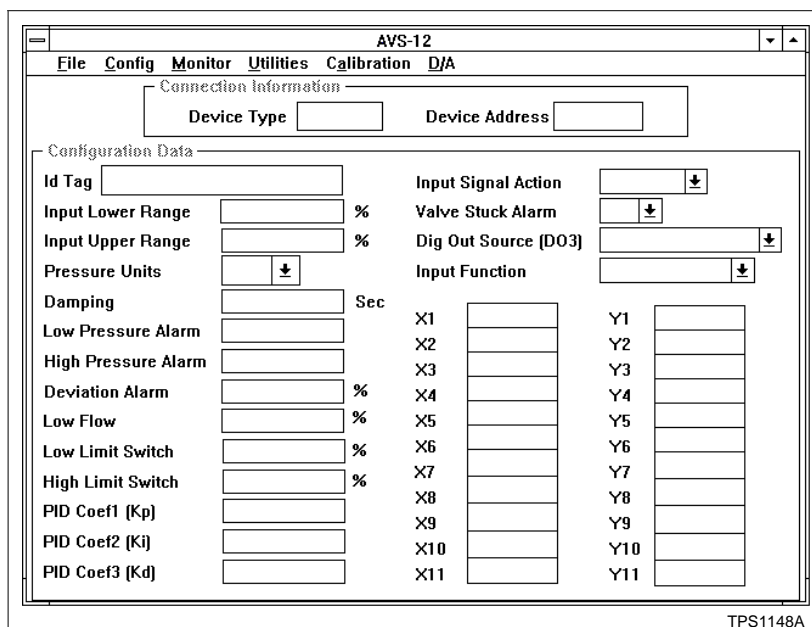

Figure 3-5. AVS Data Window
3. Click on *Open*. A window appears displaying connection information and configuration data (Fig. 3-5).
- b. Select the positioner desired. The selected positioner is highlighted. Click on *Open* and a window similar to the one shown in Figure 3-5 appears.